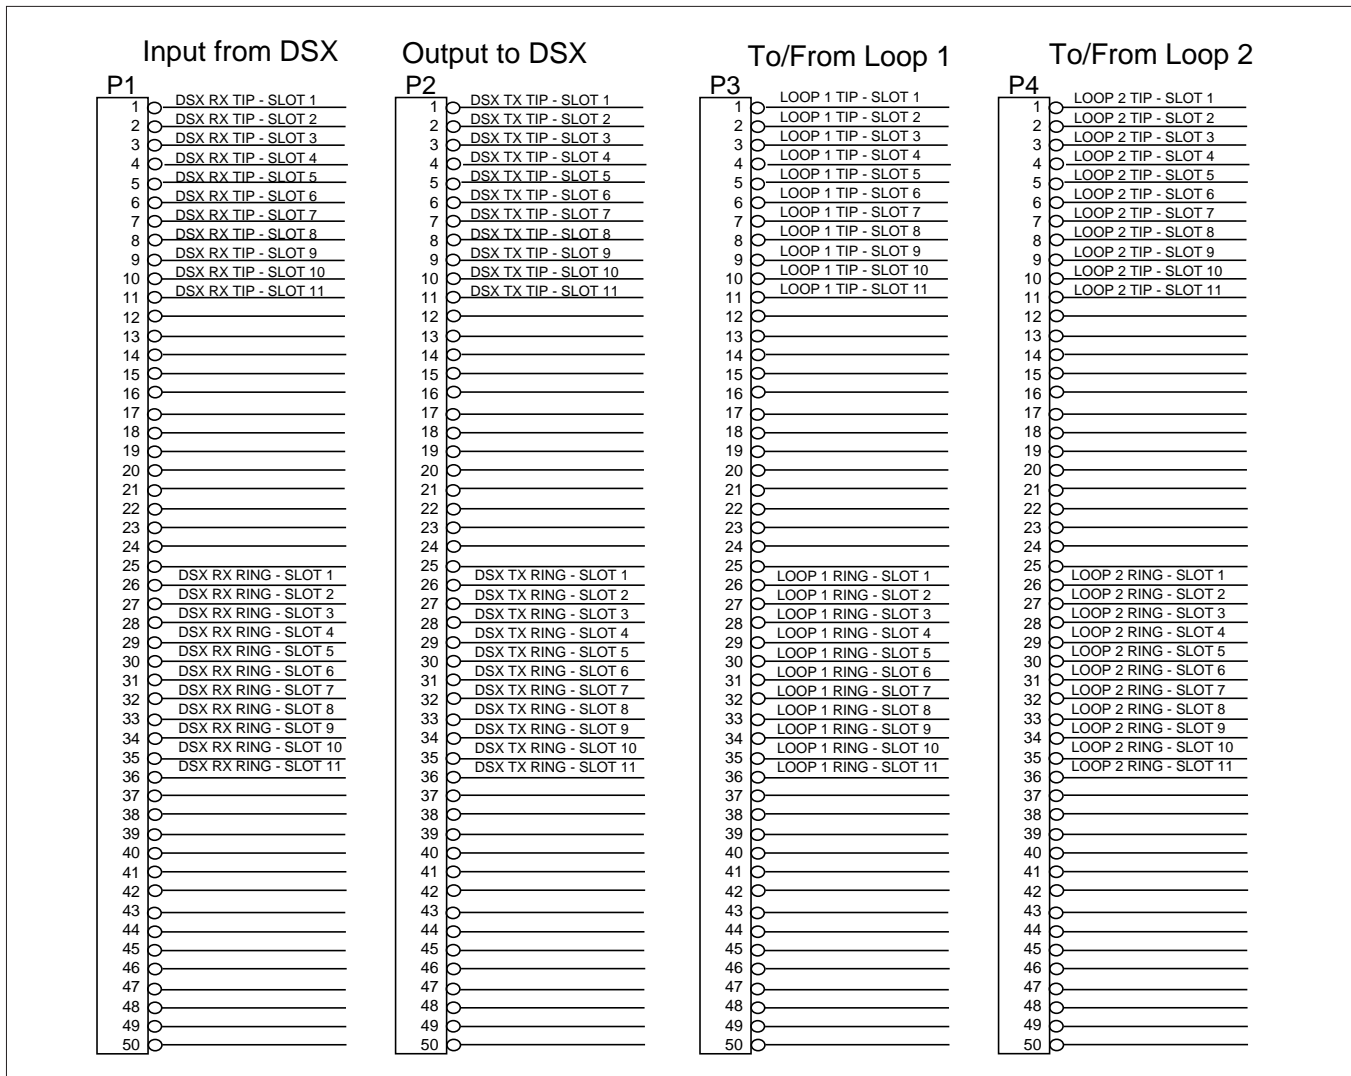

Figure 5. Signal I/O Pinouts for Amp-Type Connectors
**NOTE** *DSX-1 and HDSL loop signals are also available on connectors P1-P4. See Figures 5 and 6.*
Four connectors (P1-P4) are provided on the backplane for use in applications where wire wrap terminations are not desired. These connectors bring out the DSX-1 and HDSL loop signals from each HTU-C unit as illustrated in Figure 5.